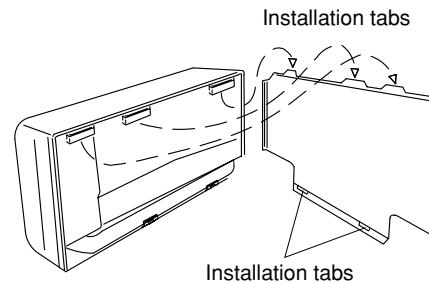

Fig. 3-26
1. When installing the indoor unit, position the indoor unit onto the installation tabs on the upper part of the rear panel. (Fig. 3-26)